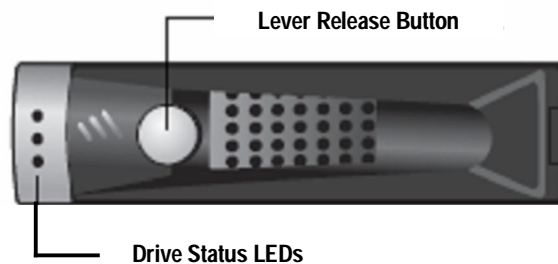
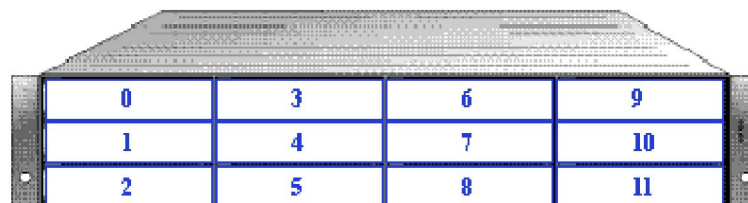

Figure 2-2. Close-up View of the Lever Release Button and Status LEDs on a Drive Carrier
Figure 2-3. Drive Numbers on the Primary Array
- Drive carriers - drives are mounted on a drive carrier. Drive carriers have a push-button lever for installing and removing drives, and three status LEDs (see Figure 2-2 and Table 2-2). Each carrier has a corresponding drive slot number (see Figure 2-3). Filler panels must be installed in all drive slots that are not occupied by a drive.